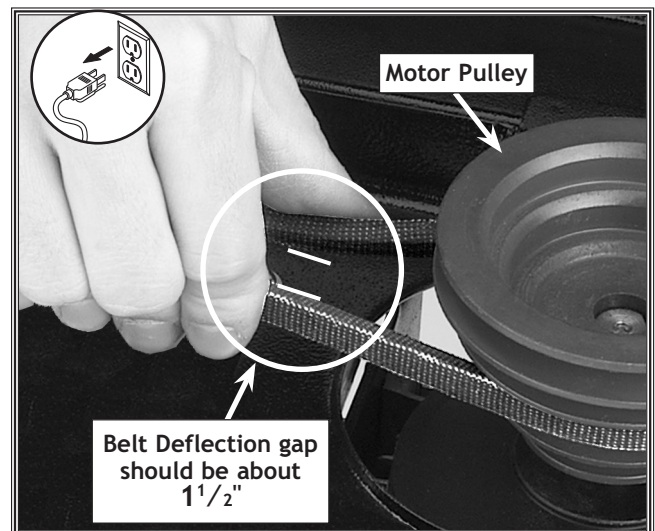

Figure 23. Measuring belt deflection.
6. Tighten the lock screw, and make sure the belt deflection gap is correct when pinched together between the pulleys (see **Figure 23**).